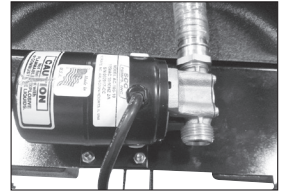

Figure 1
3. Mount electric pump [1] to bracket, making sure inlet port is facing drain port, using the 1/4" hex nuts [2] and 1/4" bolts [3] with 7/16" wrench (Figure 1).